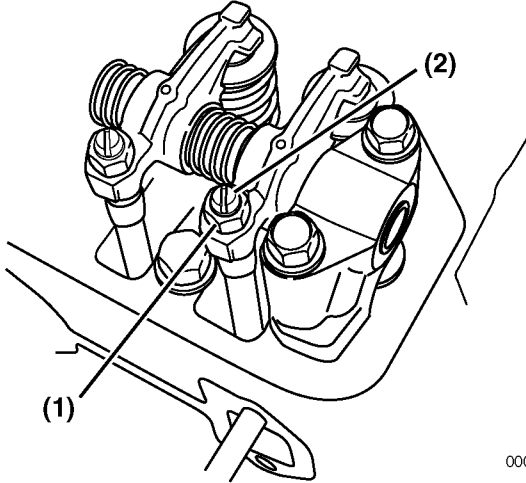

Figure 6-35
1. Loosen the valve adjusting screw lock nut (**Figure 6-35, (1)**) and valve adjusting screw (**Figure 6-35, (2)**) on the rocker arm and check the valve for any inclination of valve cap, entrance of dirt or wear.
2. Insert a 0.008 in (0.2 mm) feeler gauge (**Figure 6-36, (1)**) between rocker arm and valve cap, and adjust the valve clearance so there is a slight "drag" on the feeler gauge when sliding it between the rocker arm and the valve cap. Tighten the valve adjusting screw lock nut (**Figure 6-35, (1)**) and recheck the clearance.